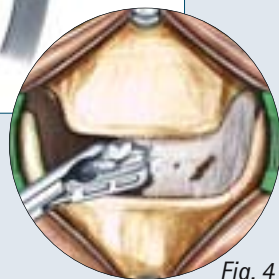

Fig. 4
- Complete discectomy is performed using various rongeurs, rectangular curettes and bone curettes (Fig. 4). While using a high speed drill to remove the posterior rim and/or dorsal osteophytes, care must be taken to avoid damaging the vertebral body endplates.